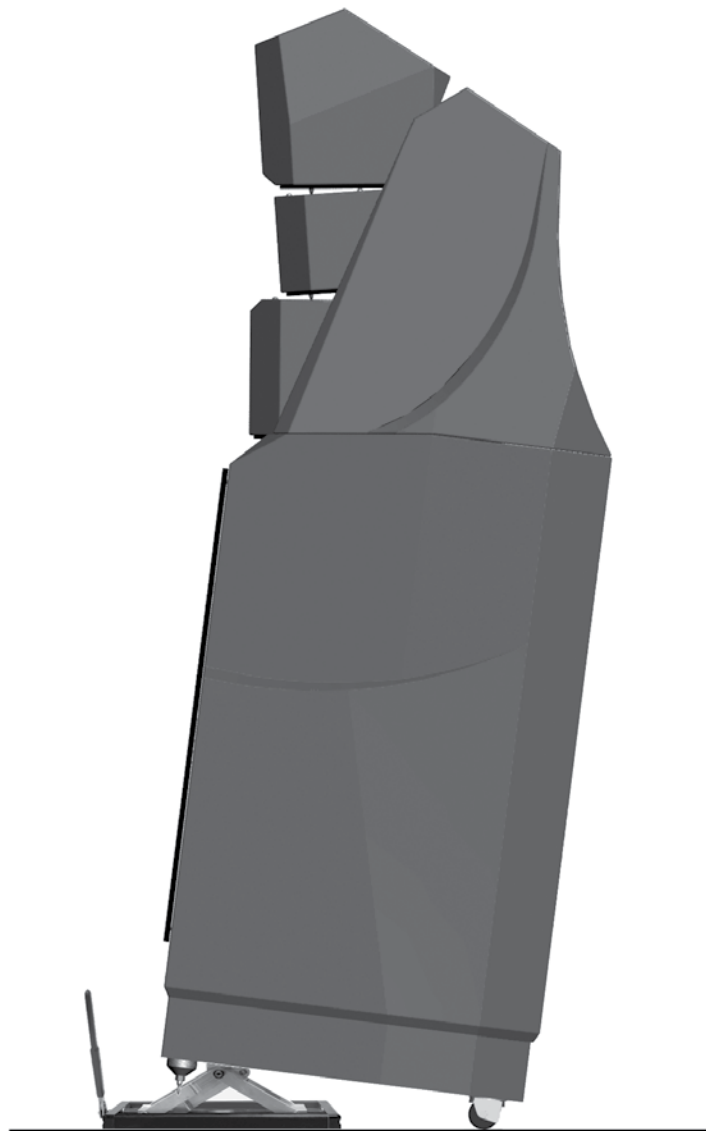

FIGURE 21 - INSTALLING THE SPIKES USING THE WILSON AUDIO JACK
- Slide the Wilson Audio Jack under the front of the Alexandria, centered between the casters, so that the jack's lift bolt is exposed. Place the lift plate so it is positioned about an inch behind the front facade of the Alexandria woofer enclosure (see Figure 21).
- Attach the wrench to the lift bolt and begin to slowly raise the front of the Alexandria by turning the bolt clockwise (see Figure 21).
- Repeat the previous process of the caster removal/spike insertion on the opposite side of the enclosure. Then continue the process on the other channel (see Figure 21).